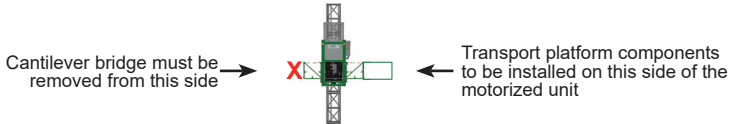

fig. 1.49
- 24- Remove the cantilever bridge installed on the side of the motorized unit **opposite** to where the transport platform components must be installed (fig. 1.49).